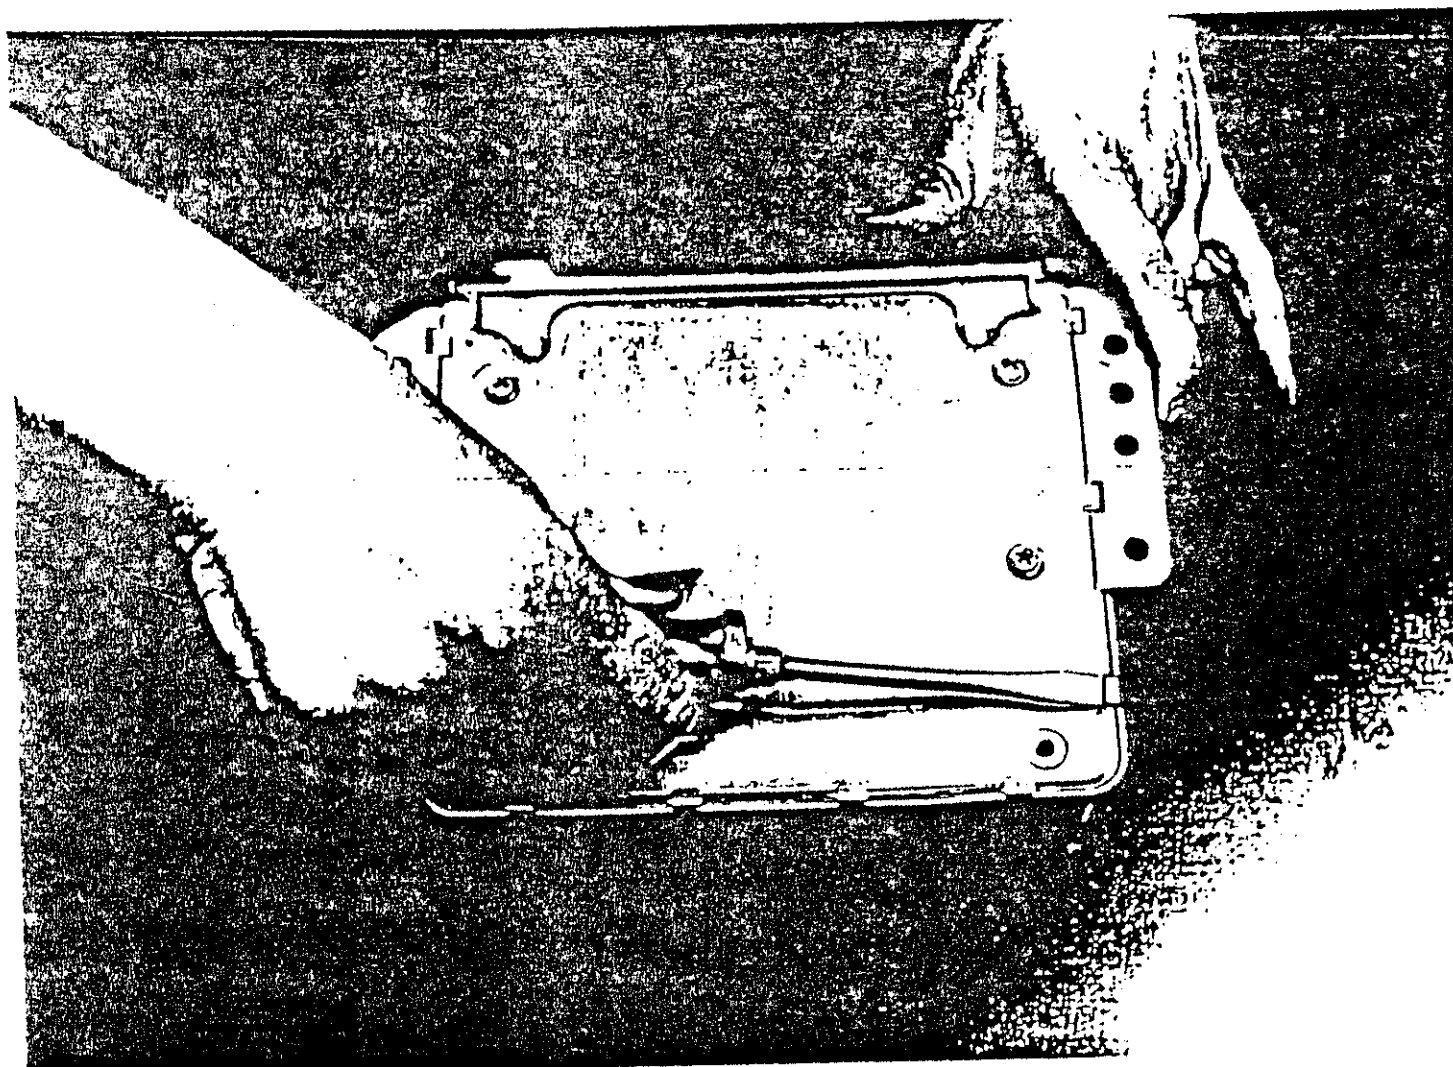

FIGURE 5
6. See figure 5 and figure 6. Hold ECU with metal side down and the plug end facing away. Grip mounting tabs with both hands and push up on upper printed circuit (PC) board where the two plastic pedestals connect to the PC board. The object here is to separate the pedestal snap connections. **Caution! DO NOT PUSH UP ON CORNERS OF PC BOARD OR BOARD WILL FLEX AND BREAK!**